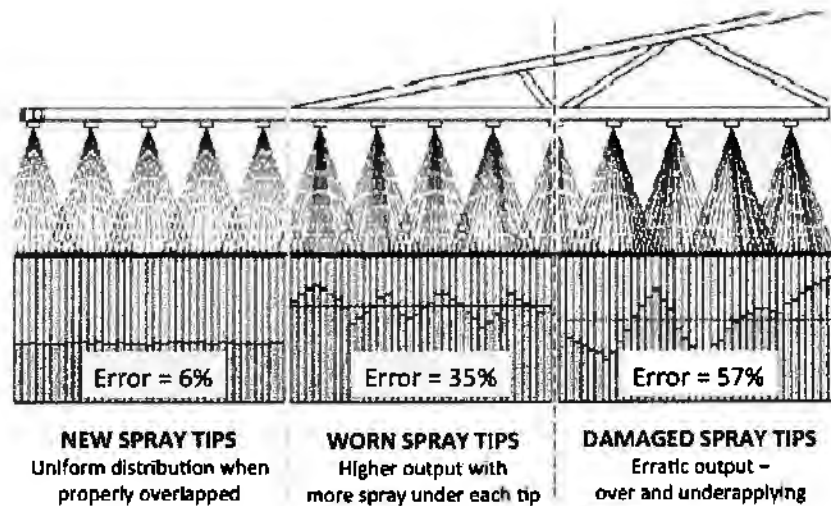

Figure 2 - Adapted from Oregon State University, Weed Science Lab Manual (CSS 540)
All equipment has some level of variability inherent to its design and condition. For example, the nozzles on a fertilizer sprayer will not spray an equal volume across their range and this error will be compounded as nozzles become worn and damaged (See Figure 2). Therefore, sprayers are designed to overlap the outer spray zones of each nozzle. That being said, the nozzles on either end of the sprayer will have reduced output on their outer edge.
- four passes with fertilizer will result in a more uniform application than just one pass (recall Figure 2). In order to have 4 passes, each treatment area will have a width of 160 ft because your spreader is 40 ft wide.
Recall the example in Figure 2 (Chapter 1) and how worn equipment can add a huge amount of variability to your results. Now is a good time to check the mechanics of your equipment and calibrate. Review your demonstration research design and ensure that the equipment you *planned* to use is same equipment you *are* using.